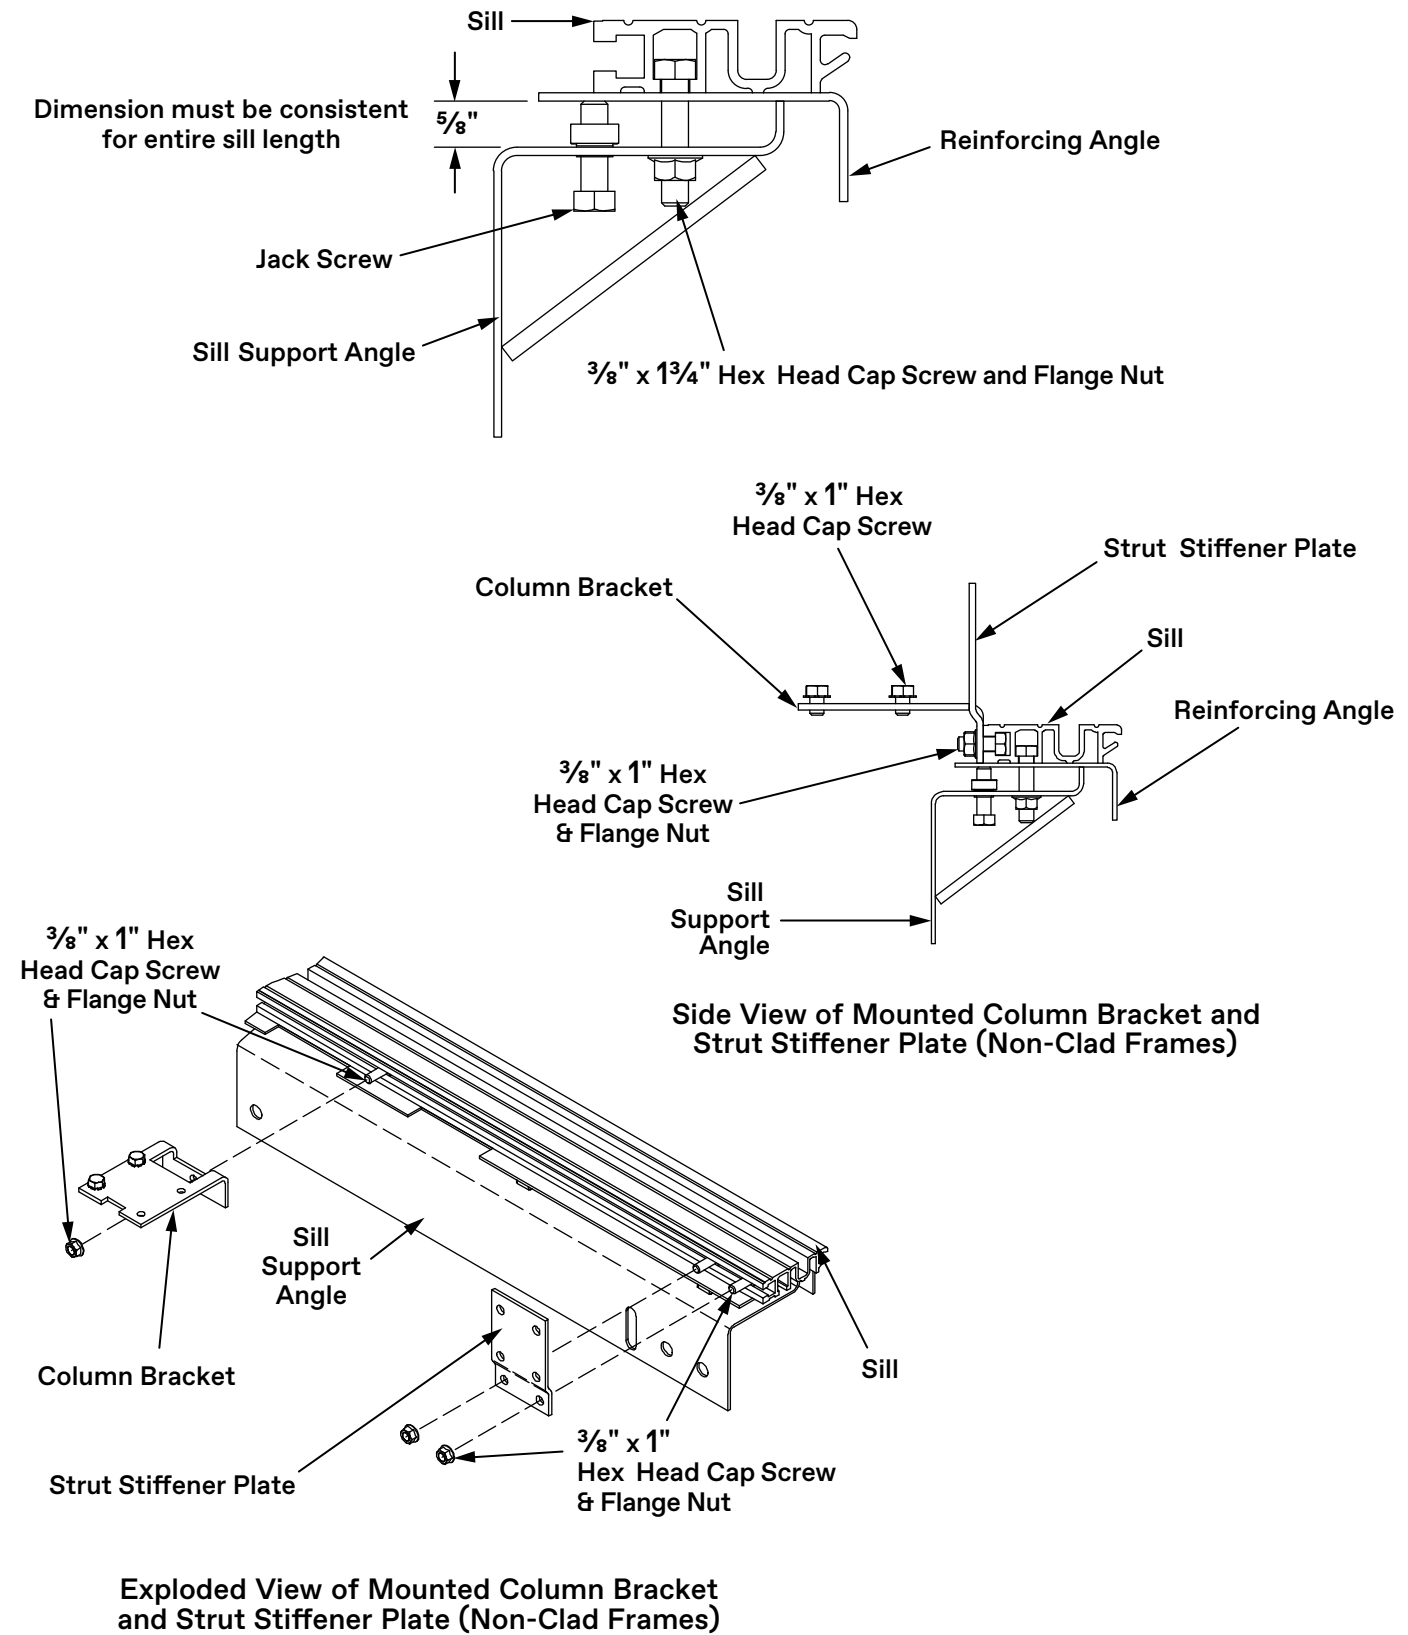

Figure 37 - Sill Installation (2 of 2)
7. With the jack bolts, adjust the space between the sill support angle and the reinforcing angle to a uniform $\frac{5}{8}"$ along the length of the sill. See Figure 37 on page 54.